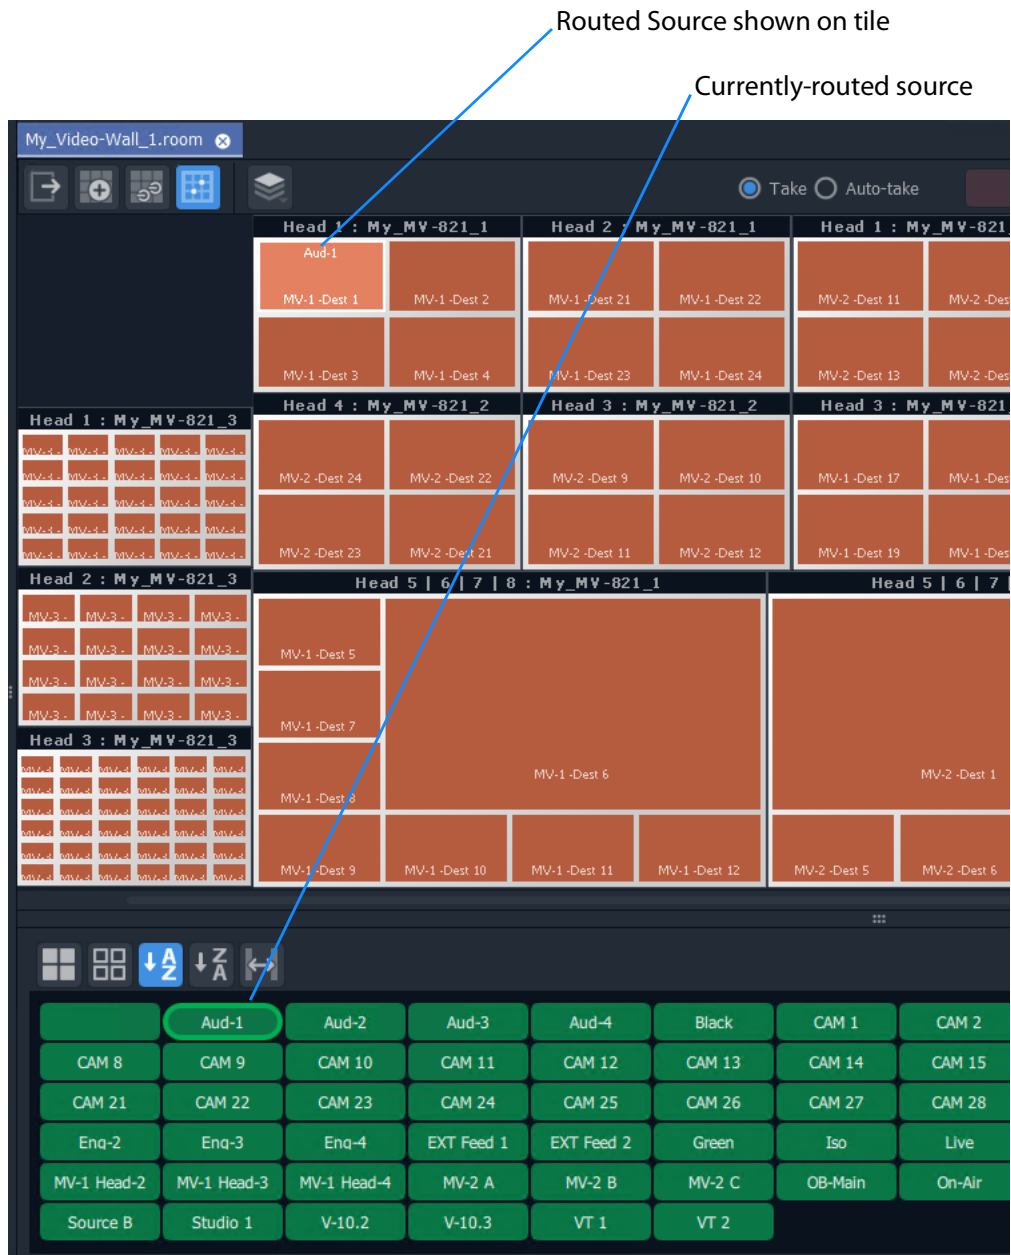

Fig. 8-84: Routed Result
- a) the selected tile position (see Figure 8-84); and also to